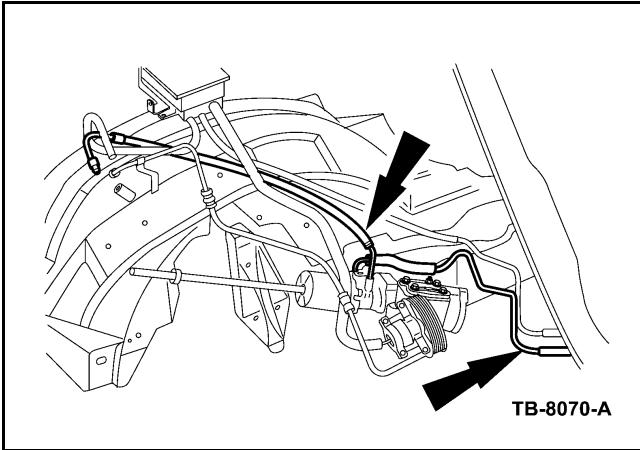

Figure 2 - Article 04-23-8
7. Route the line to the steering gear as shown in (Figure 2).
9. Orient the line as shown in Figure 2. Torque each tube nut to 26 lb-ft (35 N•m).